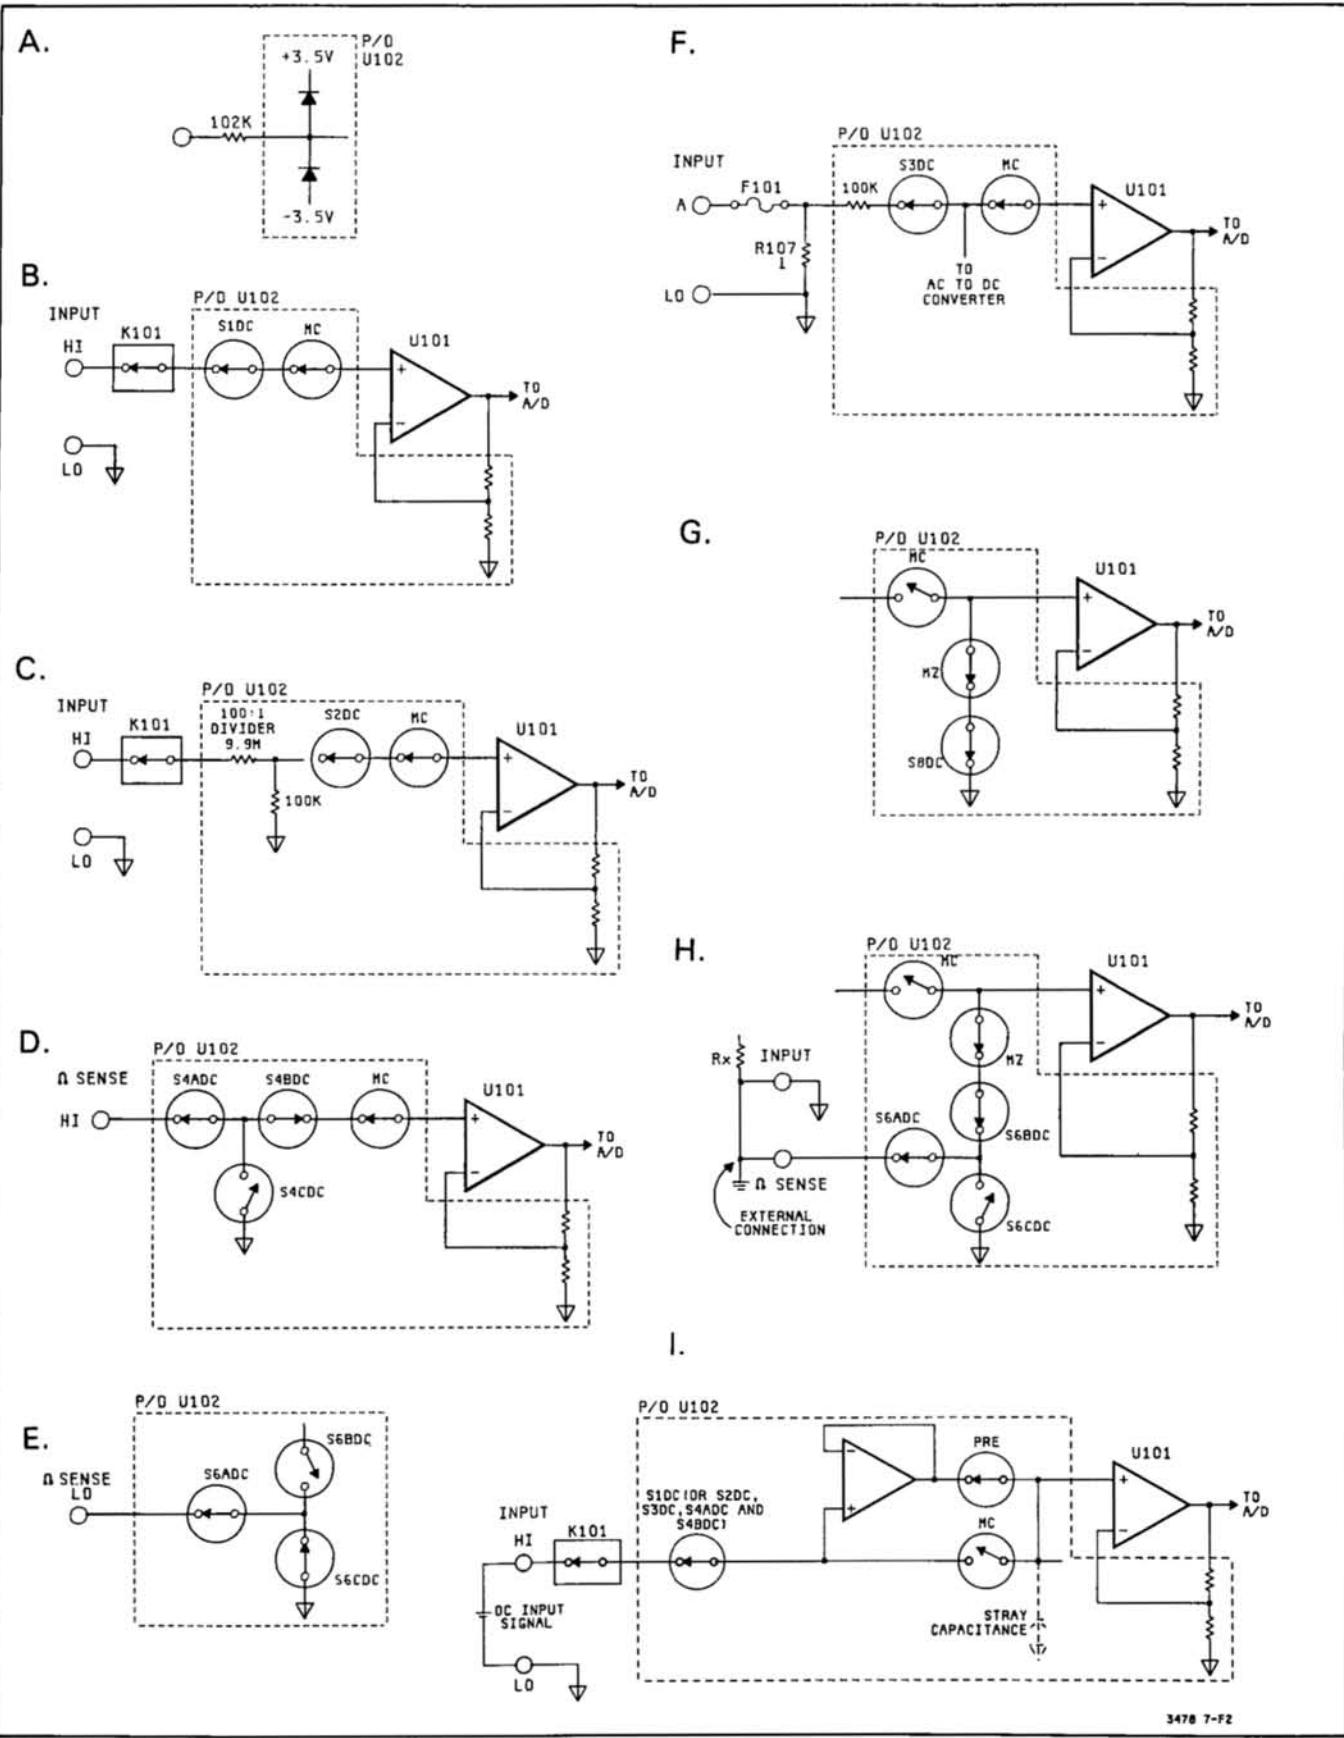

Figure 7-F-2. Simplified Schematic Of The Input Switching Circuitry
b. **Low Voltage Protection.** This circuit consists of diodes connected to the individual input nodes (part of the HI INPUT, LO INPUT, A INPUT Paths, etc.). The diodes on each node are connected (internally in U102) to +3.5V and -3.5V power supplies. If the voltage on a node exceeds either +4.2V or -4.2V, a diode conducts and keeps the level on the node to the $\pm 4.2V$ levels. The difference between the high voltage at the input terminals and the voltage at the input nodes is dropped across the resistors which are in series with the diodes and input terminals (the low pass filter). Figure 7-F-2A shows a typical protection circuit.
7-F-13. **Input Switching.** The Input Switching Circuitry consists mostly of Relay and MOSFET switches, with most FET switches located in U102. The purposes of the switches are to provide five signal paths to the Input Amplifier and to connect the amplifier for a zero measurement (done in the Autozero Function; see paragraph 7-F-14). The switches are controlled by circuits in U102 which receive their control information from the A/D Controller. The following explains the various input paths. Refer to Figure 7-F-2 and Schematic 1 for the explanation.
a. **Low Voltage Range Input Path (Figure 7-F-2B).** The path consists of K101, R103, R104, R110, and S1DC (S1DC is in U102). The purpose of the path is to connect the HI INPUT Terminal (high input voltage) to the DC/Ohms Input Amplifier. The path is used only in the 30mV through 3V dc volts Ranges and all Ohms Ranges.
b. **High Voltage Range Input Path (Figure 7-F-2C).** The path consists of R110, K102, S2DC (in U102), and a 100:1 divider (9.9M ohm and 100K ohm resistors, RD99 and RD98, in U102). The purpose of the path is to attenuate input voltages by a factor of 100 and to connect the attenuated voltage to the DC/Ohms Input Amplifier. The path is used only in the 30V and 300V dc volts Ranges.
c. **Ohms High Sense Path (Figure 7-F-2D).** This path consists of R105, R106, and S4ADC and S4BDC (S4ADC and S4BDC are in U102). The path connects the HI OHMS SENSE Terminal (high ohms input) to the DC/Ohms Input Amplifier, only when the 3478A is in the 4-Wire Ohms Function. Switch S4CDC (which is also part of the path) is used to connect the junction of S4ADC and S4BDC to ground. Switch S4CDC is closed in all functions except the 4-Wire Ohms Function and shunts any possible voltage on the S4ADC and S4BDC junction to ground.
d. Ohms Low Sense Path (Figure 7-F-2E). This path consists of R101, R102, and S6ADC and S6CDC (S6ADC and S6CDC are in U102). The path is used to connect the LO OHMS SENSE Input Terminal (low ohms input) to ground (LO INPUT Terminal), when the 3478A is in the 4-Wire Ohms Function. In the 2-Wire Ohms Function, the low ohms input is the LO INPUT Terminal (which is connected to ground).
e. Current Input Path (Figure 7-F-2F). This path includes R107 and S3DC (in U102). The voltage drop across R107 (which is generated by the current being measured) is connected through S3DC to the DC/Ohms Input Amplifier. This path is used only in the DC Current Function.
a. Autozero (in the DC Volts, DC Current, and 2-Wire Ohms Functions). In the DC Volts, DC Current, and 2-Wire Ohms Functions, the zero measurement is made with switch MC (measure customer) open, and switch MZ (measure zero) and S8DC closed (see Figure 7-F-2G). Switch S8DC and MZ connects the DC/Ohms Input Amplifier to ground through a 102K ohm resistor. After the zero measurement is made, switch S8DC and MZ opens, and switch MC closes for the input measurement. (Note: MOSFET switches MC, MZ, and S8DC are in U102.)